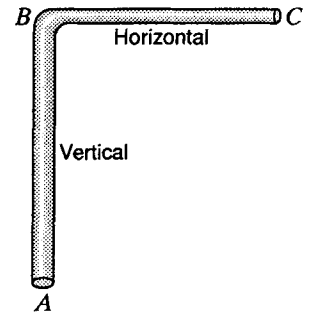

Figure P5.4
- 5.12 Refer to Fig. P5.4. Water at 10°C flows up pipe AB (5 m long, 40 mm diameter) and along BC (3 m long, 30 mm diameter) at 1.75 L/s. If the measured pressure at A is 250 kPa, and the pipe friction head loss between A and C is 1.45 m, find the pressure at C. Neglect energy losses caused by the diameter change and bend at B.